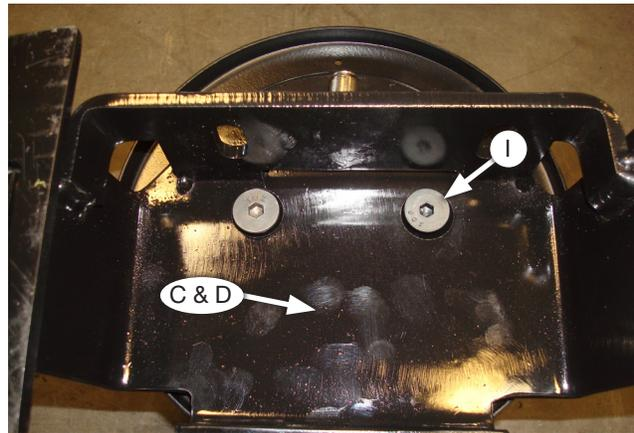

Fig. 20
2. Install both upper brackets (C & D) onto the air spring assemblies using the 3/8" flat head screws (I) (Fig. 20). Torque hardware to no more than 20 lb.-ft. (27Nm).